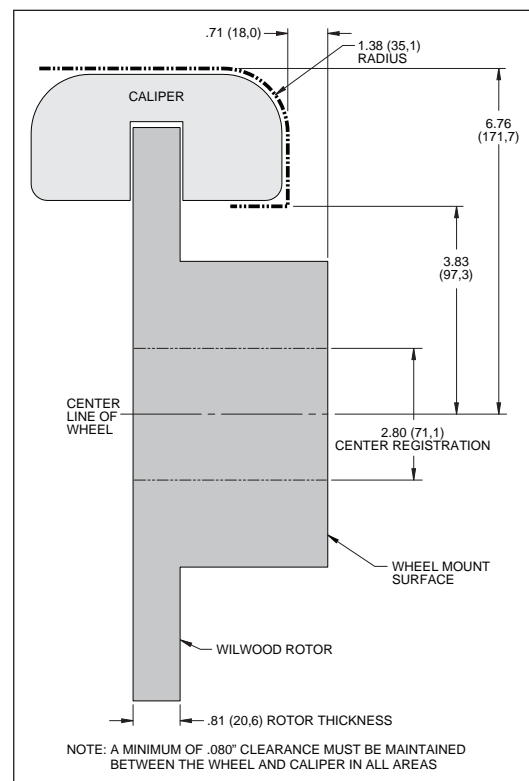

Figure 3. Wheel Clearance Diagram
- Review the Wheel Clearance Diagram (Figure 3, page 4) to verify that there is adequate clearance with the wheels you will be using with the installation.
- Verify your wheel clearance using Figure 3.